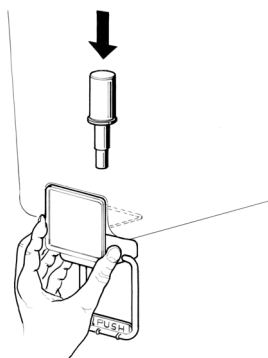

figure 6
- 3 **Gravity faucet:** install the faucet handle and the piston with its gasket (see figure 6).